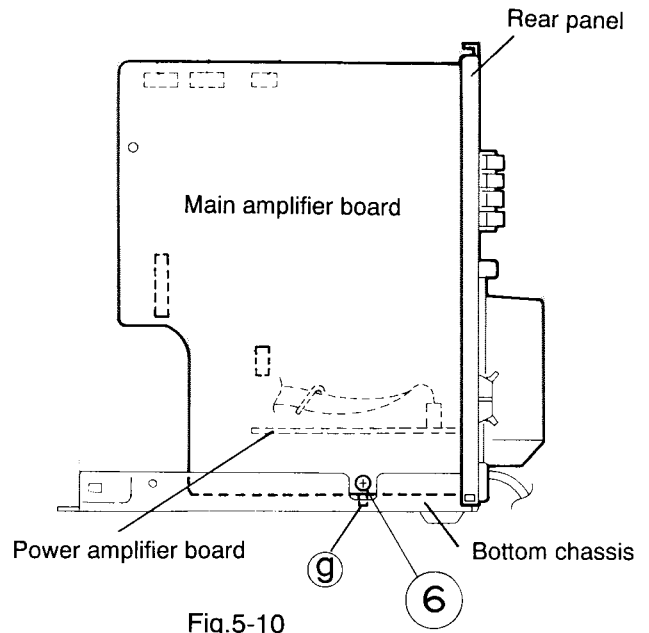

Fig.5-10
4. Remove the screw ⑥ fastening the main amplifier board and bottom chassis to the side panels of the main unit. (See Fig. 5-10)
8. Remove the rear panel assembly from the bottom chassis by disengaging the protrusion ⑤ of the main amplifier board from the cutout in the bottom chassis. (See Fig. 5-10)